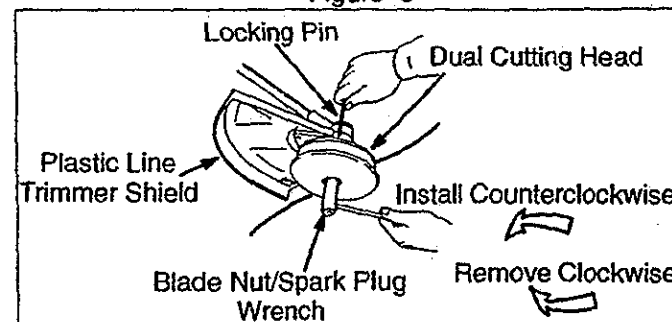

Figure 7
To remove (See Figure 7), place locking pin through the gearbox and driving disk to prevent the arbor shaft from turning and remove the dual line head by turning clockwise with blade nut/spark plug wrench. Save parts removed for future use.
- To remove (See Figure 7), place locking pin through the gearbox and driving disk to prevent the arbor shaft from turning and remove the dual line head by turning clockwise with blade nut/spark plug wrench. Save parts removed for future use.